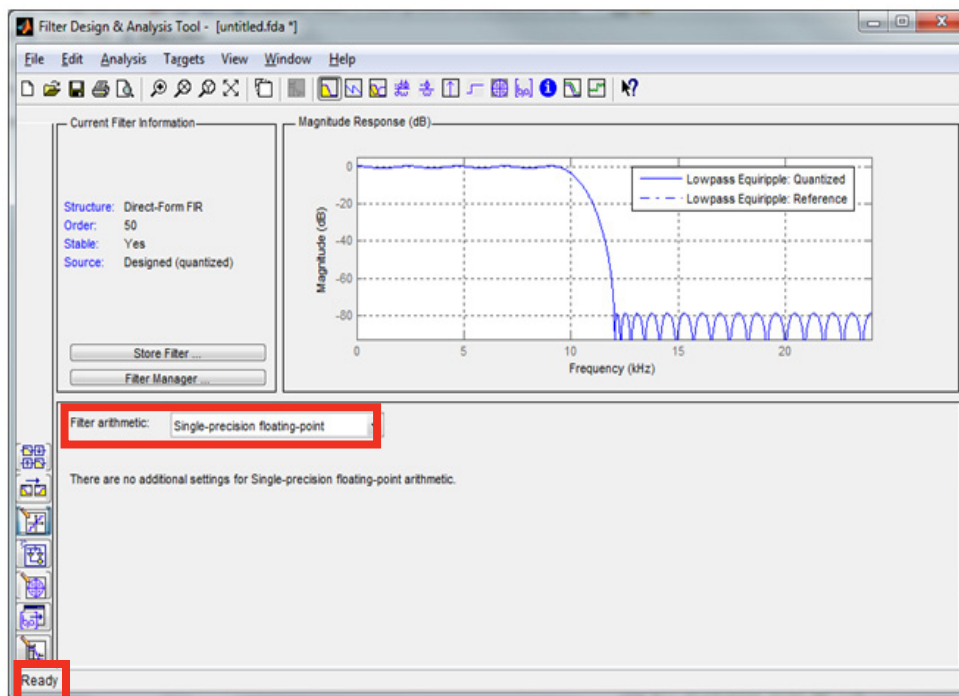

Figure 4. Selecting “Single-precision floating-point” and “Return to the Design Filter page”
2. Select “Single-precision floating-point” because the architecture of the U8903A is 32 bits (Figure 4)
3. Return to the Design Filter page (Figure 4)